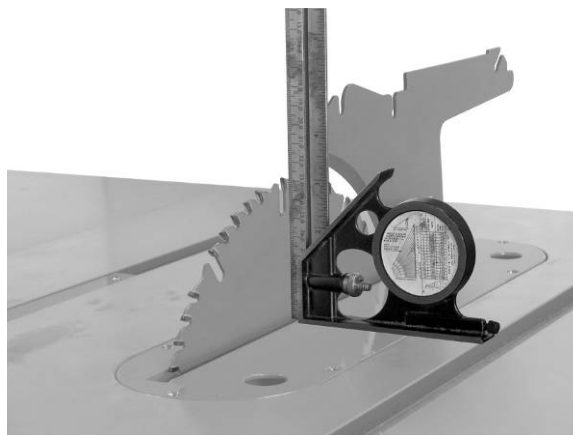

Figure 18
4. Place a combination square on the table against the blade and check to see that the blade is at a 90° angle to the table, Figure 18. Make sure square is not touching a blade tooth.